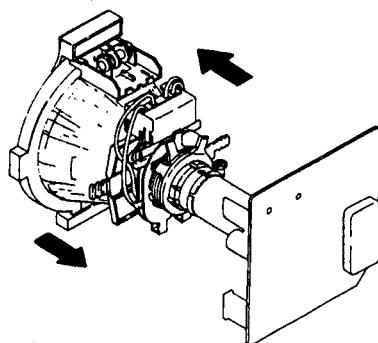

Fig. 3-1
(Fig. 3-1 – 3-3)
4. Move the deflection yoke forward, and adjust so that the entire screen becomes red. (Fig. 3-1)